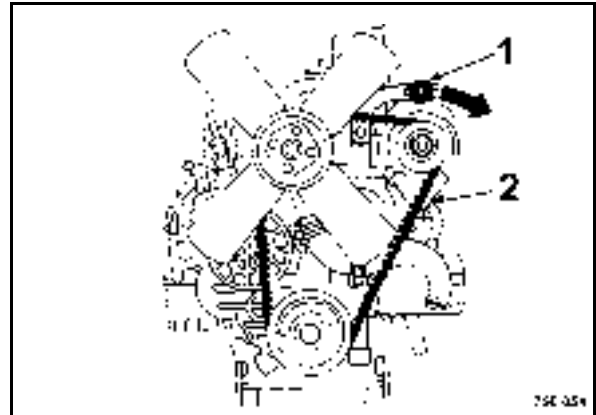

Fig. 104
- Slacken the fastening screws 1 and 2 (Fig. 104) slightly.